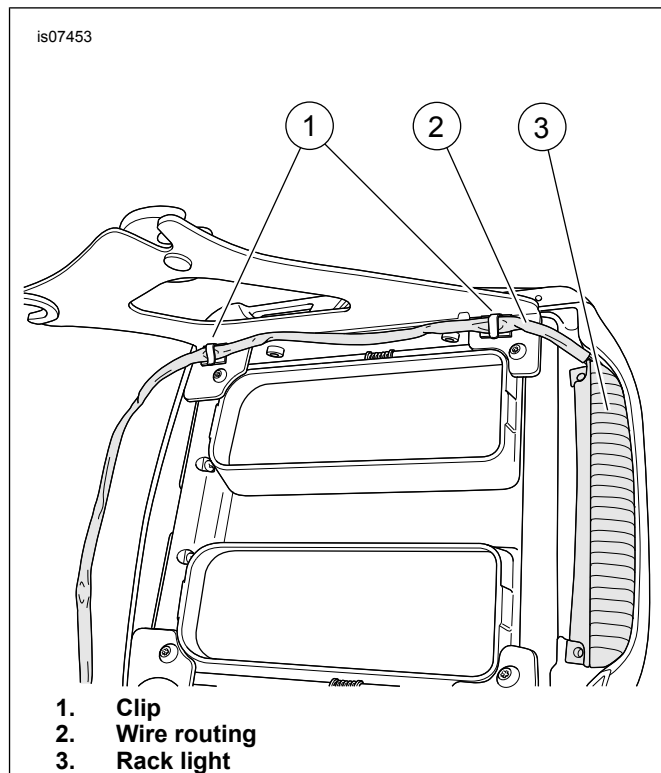

Figure 4. Light Kit Wire Routing
See Figure 4. If installing an optional Rack Light Kit (3), route wiring (2) as shown. Mount two clips (1, from **that** kit) in positions shown.